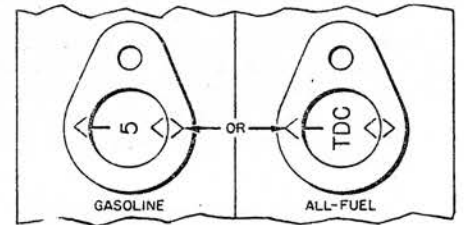

Fig. 22A Ignition timing mark aligned on flywheel. Models 50, 60
**MODELS 50, 60—**To time the distributor with the engine, remove the spark plug from the flywheel side and turn over the engine until the piston is coming up on its compression stroke. Continue turning until the "TDC" mark on the flywheel aligns with the notch in the timing hole of the flywheel cover, Fig. 22A. With the engine in this position the slot in the coupling of the drive flange will be horizontal.
**FOR GASOLINE ENGINES—**Turn the flywheel in running direction from the "TDC" position until the "5" mark, Fig. 22A, is in line with the notch in the timing hole. Tap the top of the distributor toward the rear of the tractor until a spark is produced between the wire and metallic part
**FOR ALL-FUEL ENGINES—**Ignition timing is the same as above except that the initial or basic timing is with the "TDC" mark as shown in Fig. 22A. With a timing light, adjust the distributor to the 25-degree mark on the flywheel.